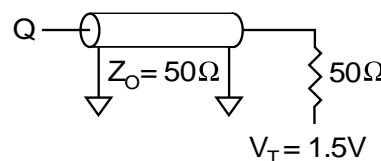
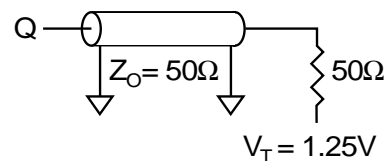

Figure 1
Figure 3
- Test conditions as specified with the output loading shown in Figure 1 for +3.3V I/O ( $V_{DDQ} = +3.3V \pm 0.165V$ ) and Figure 3 for 2.5V I/O ( $V_{DDQ} = +2.5V \pm 0.125V$ ) unless otherwise noted.
Output load .....	See Figures 1 and 2
Output load .....	See Figures 3 and 4